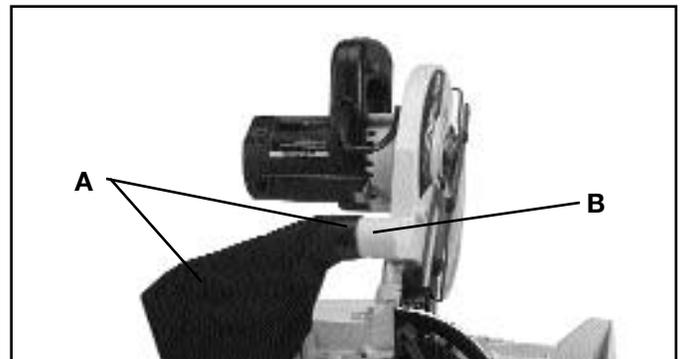

Fig. 9
Assemble dust bag assembly (A) Fig. 9, to dust spout (B) on rear of upper guard assembly, as shown.